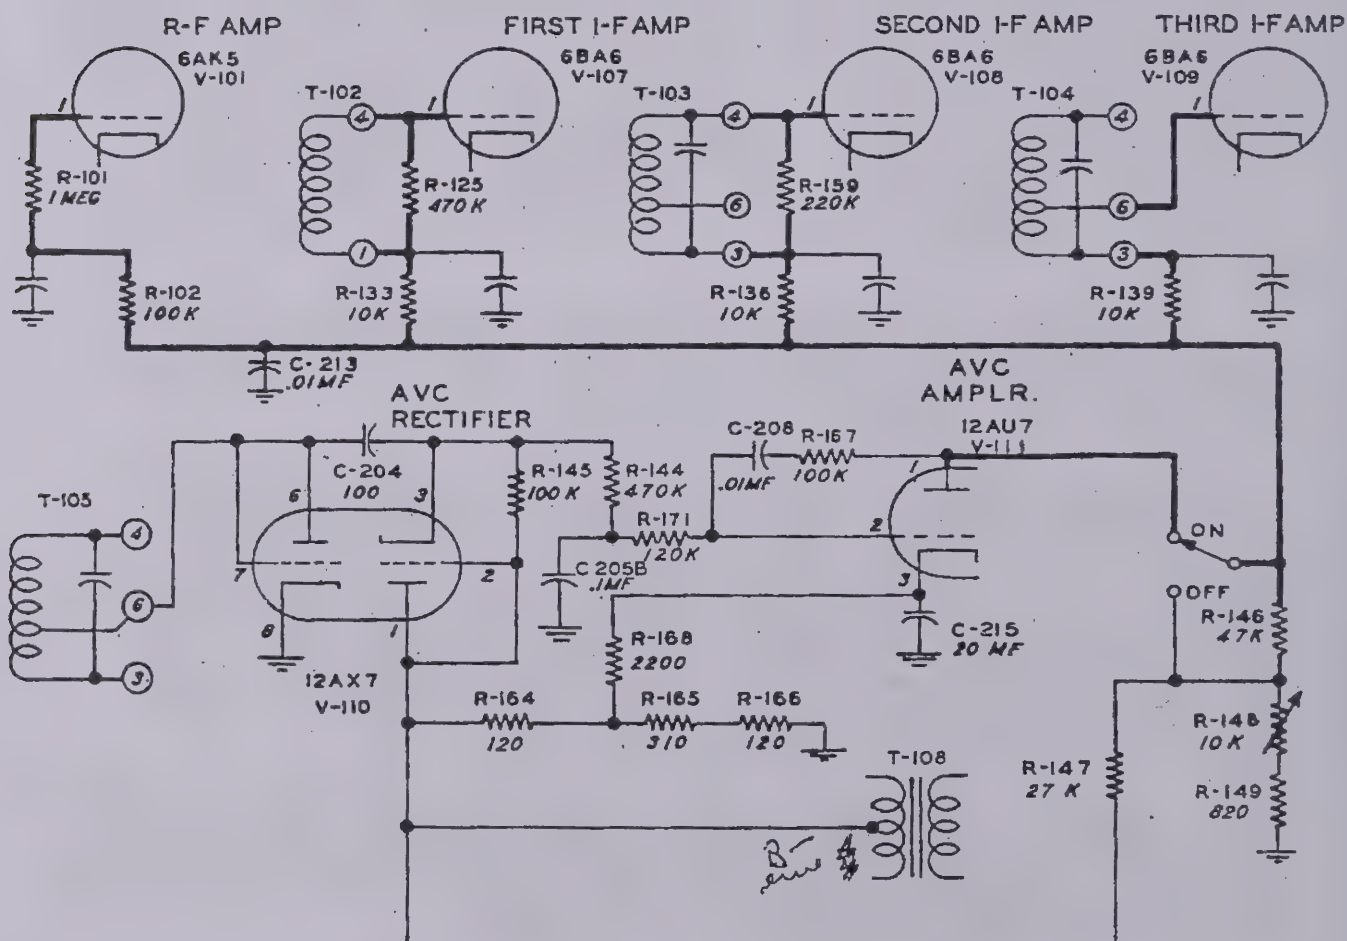

Figure 4-8. 51J-3 A.V.C. Circuit
4.2.11. AUTOMATIC VOLUME CONTROL. - The problem of blocking that is created by strong signals or heavy static is eliminated by use of an amplified AVC system and a low impedance AVC line. Refer to figure 4-8. The second triode section of V110 is used as an AVC rectifier to produce control voltage for the AVC amplifier which uses one half of dual triode V111. The AVC voltage that is applied to grids of the controlled tubes is produced when plate current flowing through one-half of AVC amplifier tube V111 causes a voltage drop across resistor R146. Plate voltage for the amplifier half of V111 is obtained from the voltage drop across resistors R165 and R166, which are in series with the center tap of the power transformer to ground. However, V111 will not draw plate current when there is no signal input to the receiver because of approximately 11 volts of bias that is placed upon its grid by the voltage drop through R164. This bias voltage for V111 is taken from the end of R145 through which the rectified carrier flows in opposition to the bias voltage. Thus, when the rectified carrier becomes strong enough to overcome the bias voltage on V111, V111 will draw plate current and produce a voltage drop across R146, thereby producing AVC voltage in proportion to the strength of the received signal. The bias on the grid of V111 is high enough to produce a delay in the generation of AVC voltage and thus allows the receiver to function at full sensitivity on weak signals. Resistor R144 and capacitor C205B form the time constant in the AVC circuit. R171,